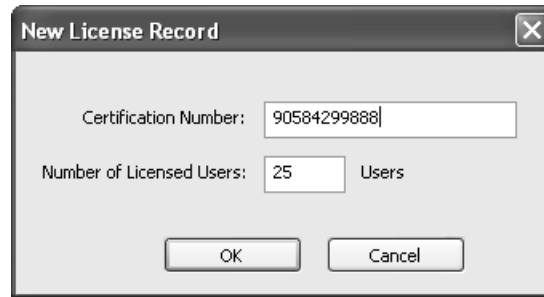

Figure 8-19: The New License Record Screen
- 4) Enter the certificate number provided by Molecular Devices in the **Certification Number** box. (Figure 8-19).